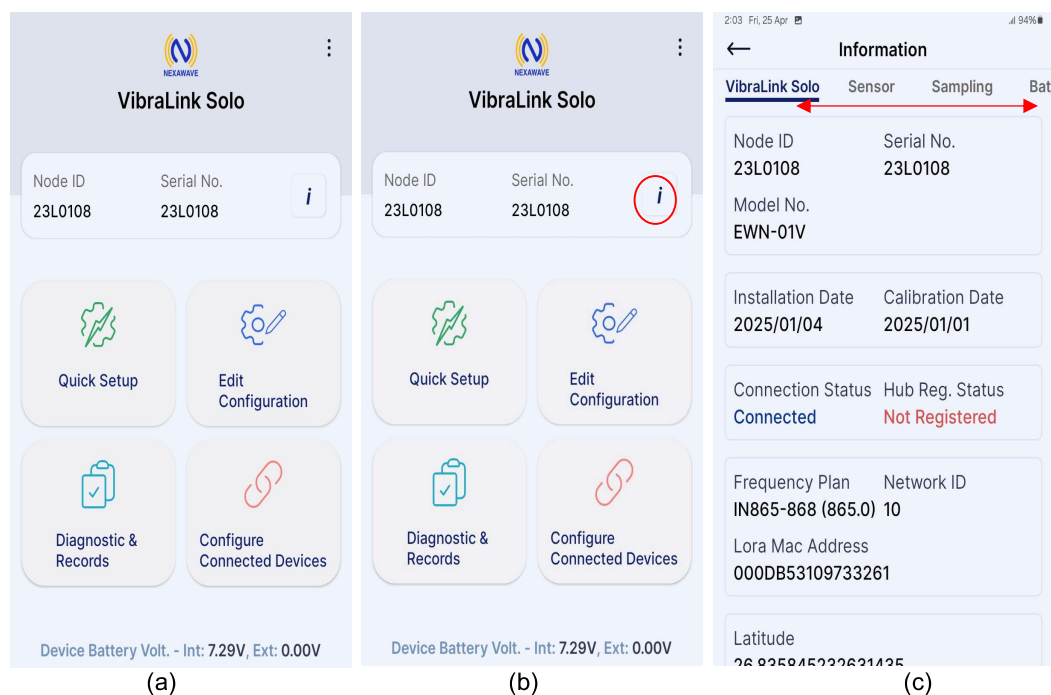

Figure 5-13.1
- It will take you to the home screen of the VibraLink, as shown in Figure 5-13.1(a). Clicking on the 'i' button (Figure 5-13.1(b)) will open the information window. Within this window, you can scroll to view information about the VibraLink, sensor, sampling, battery and the phone (Figure 5-13.1(c)).